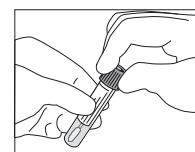

Fig. 3
5. Replace the cap on the tube and close tightly (Fig. 3).